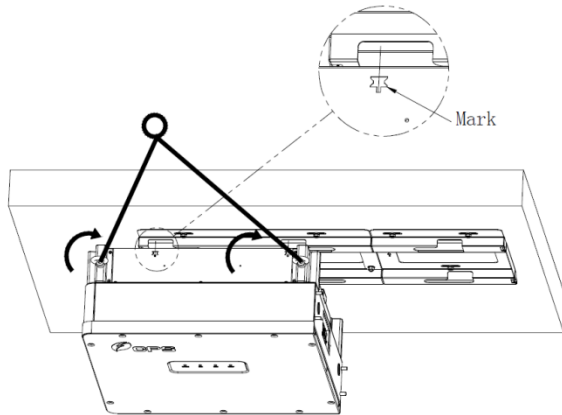

Figure 3-11 Mount the Main Enclosure on the Bracket by Lifting Sling
Following method A or B mount the main enclosure by aligning the mark on the top of the main unit with the opening of the wall bracket (**Figure 3-11**), setting the main enclosure in the track.
- A. Lift mounting: find the lifting eye bolt M10 (2pcs) in the Accessory Kit and screw them into the studs at the top of the inverter. Use sling rope or bar (inserted through both lifting eye bolts) to lift the inverter onto the bracket. The minimum angle between the two sling ropes should be less than 90 degrees (**Figure 3-11**).